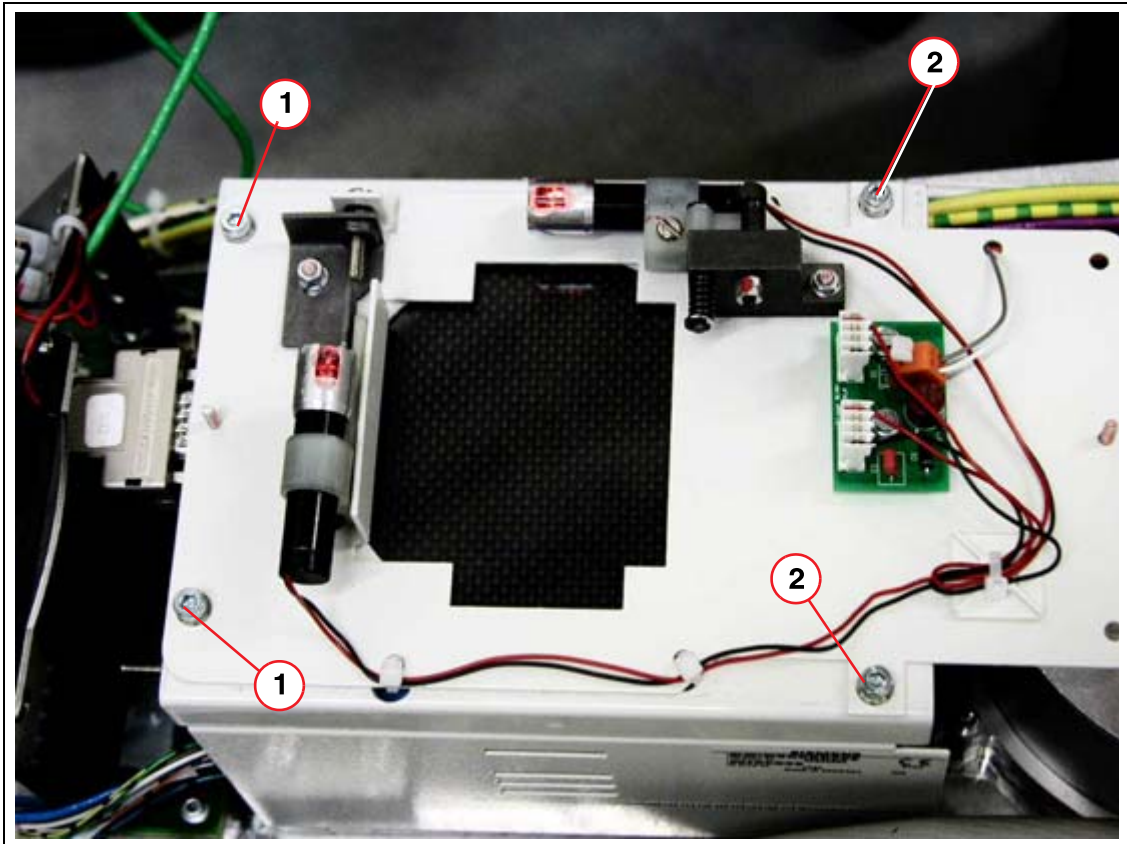

Fig. 4: Laser_unit
- Loosen the screw (1/Fig. 4 / p. 10).
- Install the visual localizer as shown in (Fig. 4 / p. 10) and secure it to the POWERPHOS via 4 screws and contact disks (1 und 2/Fig. 4 / p. 10).